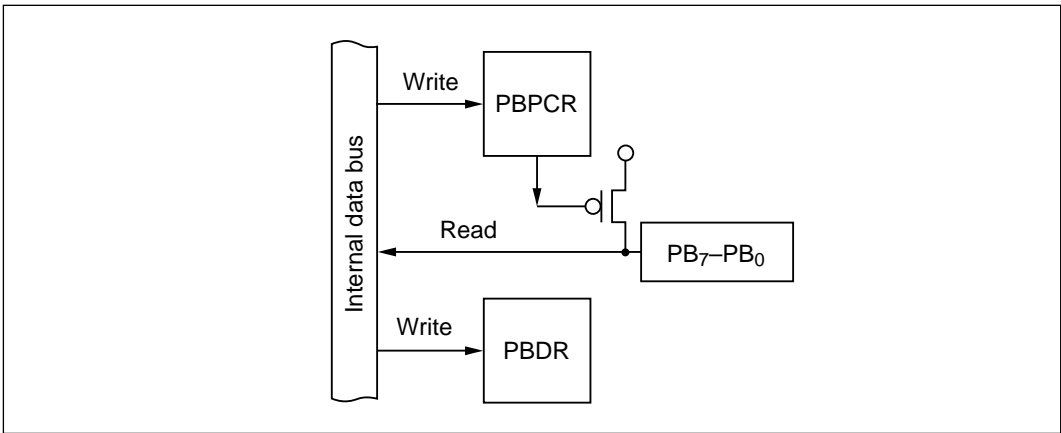

Figure 10-79 Input Port with Built-In Pull-Up Transistors (Mode 7)
(2) Input Port with Internal Pull-Up (All Pins: Mode 7): Figure 10-79 shows a block diagram illustrating the general-purpose input function and built-in input pull-up transistors. Table 10-60 indicates register read/write data. Values written in the port B data register (PBDR) have no effect on general-purpose input lines. When read, PBDR returns the value at the pin. When a bit in the port B pull-up transistor control register (PBPCR) is set to 1, the corresponding PBDR bit always reads 1.